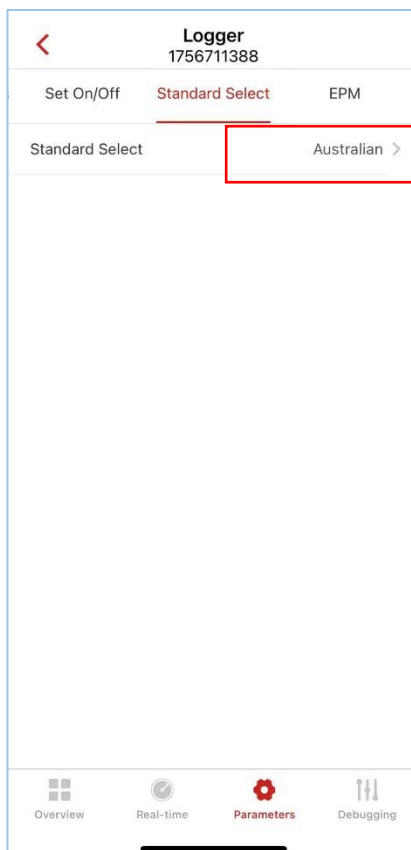

FIG. 9.4. Select Country
1) Select country, shown as per FIG. 9.4.